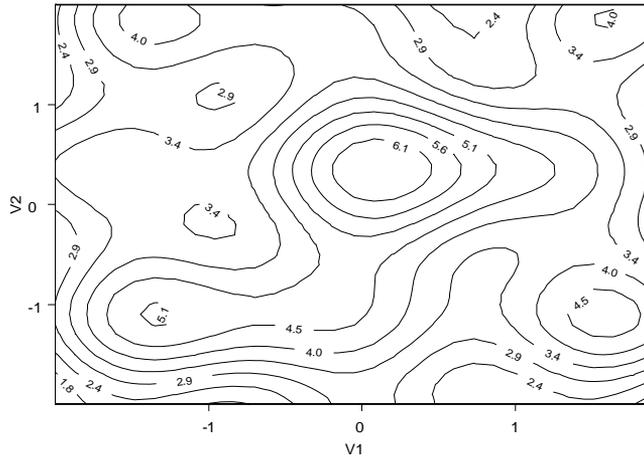

Figure 3.49: Contour plot of the *exsurf* data.
2. Click the **Contour** button  on the **Plots 2D** palette. The resulting graph is shown in Figure 3.49.